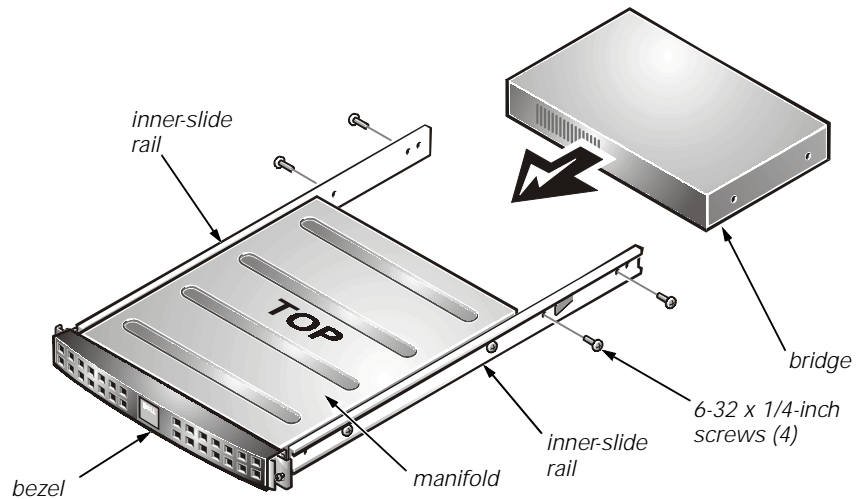

Figure 1-3. Mounting the Bridge to the Manifold
3. Align the holes of the inner-slide rails with the holes on the side of the bridge (see Figure 1-3).